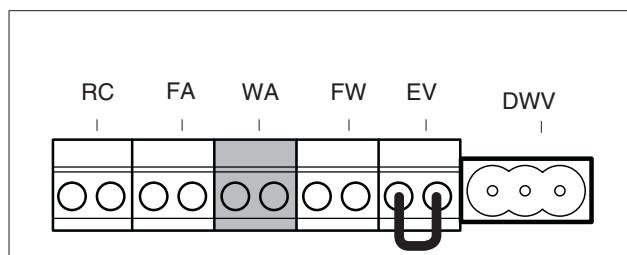

fig. 47 Terminal strip - potential-free heat demand (connection colour green)
- Connect the potential-free heat demand contact to the green WA terminal (fig. 47). The maximum allowed resistance of this circuit is 100 ohms. Use a 2-core cable of 0.75 mm².